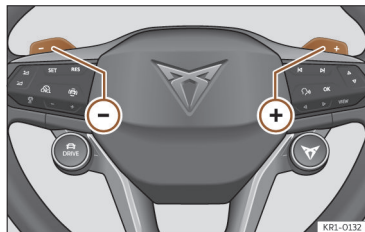

Fig. 110 Multi-function steering wheel: energy recuperation levers.
- Pressing the steering wheel levers + or – temporarily activates the manual selection of the energy recuperation level.>>> **Fig. 110** Automatic recuperation is reactivated by pressing the accelerator pedal again.
- Select the energy recuperation level with the steering wheel levers + or – >>> **Fig. 110**.